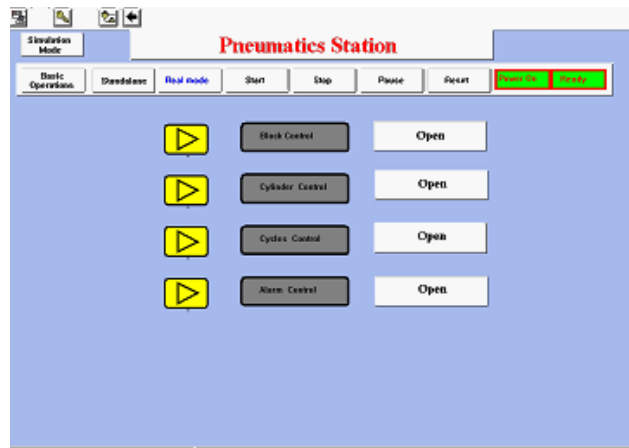

Figure 164: Pneumatics Station
8. Click **Restart**. Pneumatics Station window (shown in Figure 164: Pneumatics Station) is displayed in the background. Click **Close** to close the Vuniq Application Manager window.